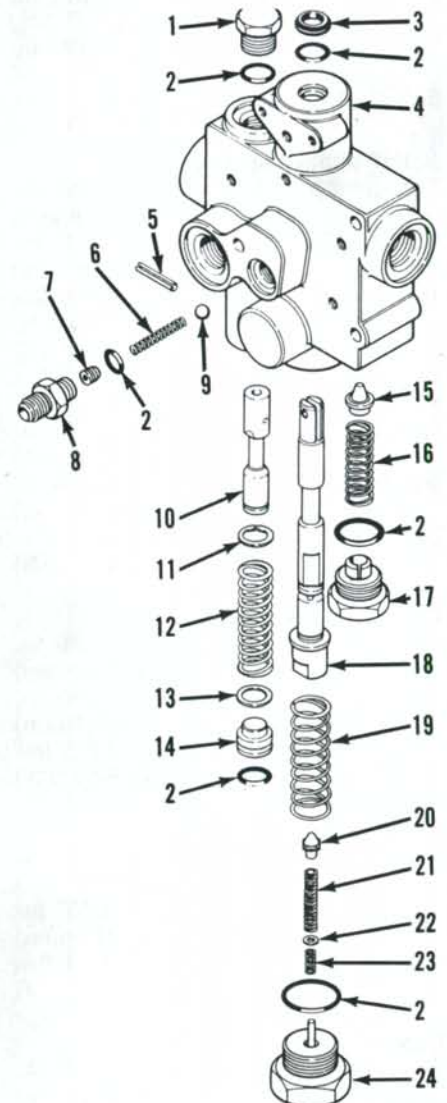
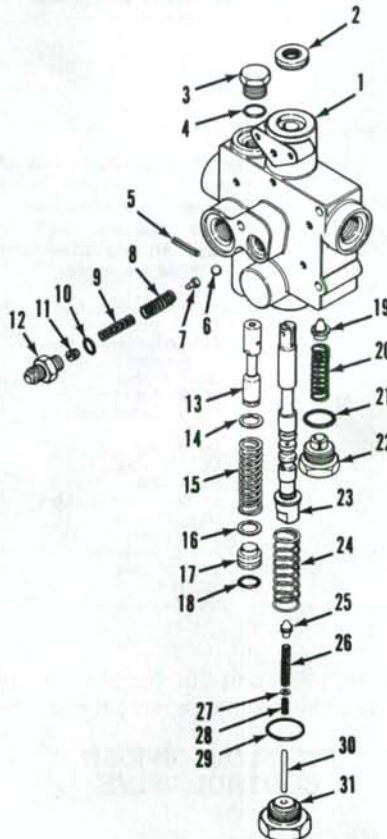

Fig. 221—Exploded view of flow divider and pto control valve for Model 2090 and 2290 tractors.
Fig. 222—Exploded view of pto control valve and flow-regulator used on Models 2094 and 2294.
With engine running at 750 rpm, and with oil at operating temperature of approximately 120° F (49° C), pull pto control knob to full up position, engaging pto clutch. Take hand off control knob; if control knob does not hold in up position, turn screw (7—Fig. 221 or 223) inward to increase spring pressure on detent in pto control and pressure regulator valve. Stop tractor engine. Pto control knob must automatically return to down position.
198. OVERHAUL. Refer to Fig. 221 for exploded view. Remove hydraulic connector (8), set screw (7), spring (6) and ball (9). Remove modulator spool plug (24), spring (23), washer (22), spring (21), poppet (20), return spring (19) and spool (18). Remove relief valve plug (17), spring (16) and relief poppet (15). Place a "C" clamp over pressure regulator plug, then drive out roll pin (5)
To check pto control and regulator pressure, start engine and operate at 2100 rpm. Check reading on 600 psi (4100 kPa) test gage. Reading on test gage must be 210 psi (1448 kPa). If not, add or remove shims (13—Fig. 221, 16—Fig. 222, 19—Fig. 223 or 23—Fig. 224) to obtain correct pressure.
Renew all "O" rings upon reassembly. Install new wiper seal (3—Fig. 221) with wide end towards the inside of control spool bore. Check springs against following specifications:
199. OVERHAUL. To disassemble the pto control and flow-regulator valve, refer to Fig. 222 and remove connector (12), adjusting screw (11), springs (8 and 9), guide pin (7) and detent ball (6). Remove plug (31) with pin (30) and "O" ring (29), secondary spring (28), washer (27), primary spring (26), modulator poppet (25), return spring (24) and spool (23). Remove relief valve plug (22), spring (20) and relief valve (19). Place a "C" clamp over pressure regulator plug, then drive out roll pin (5). Loosen "C" clamp to release spring pressure from plug (17). Remove plug, shims (16) and spring (15). Remove plug (3) opposite regulator bore and push spool (13)